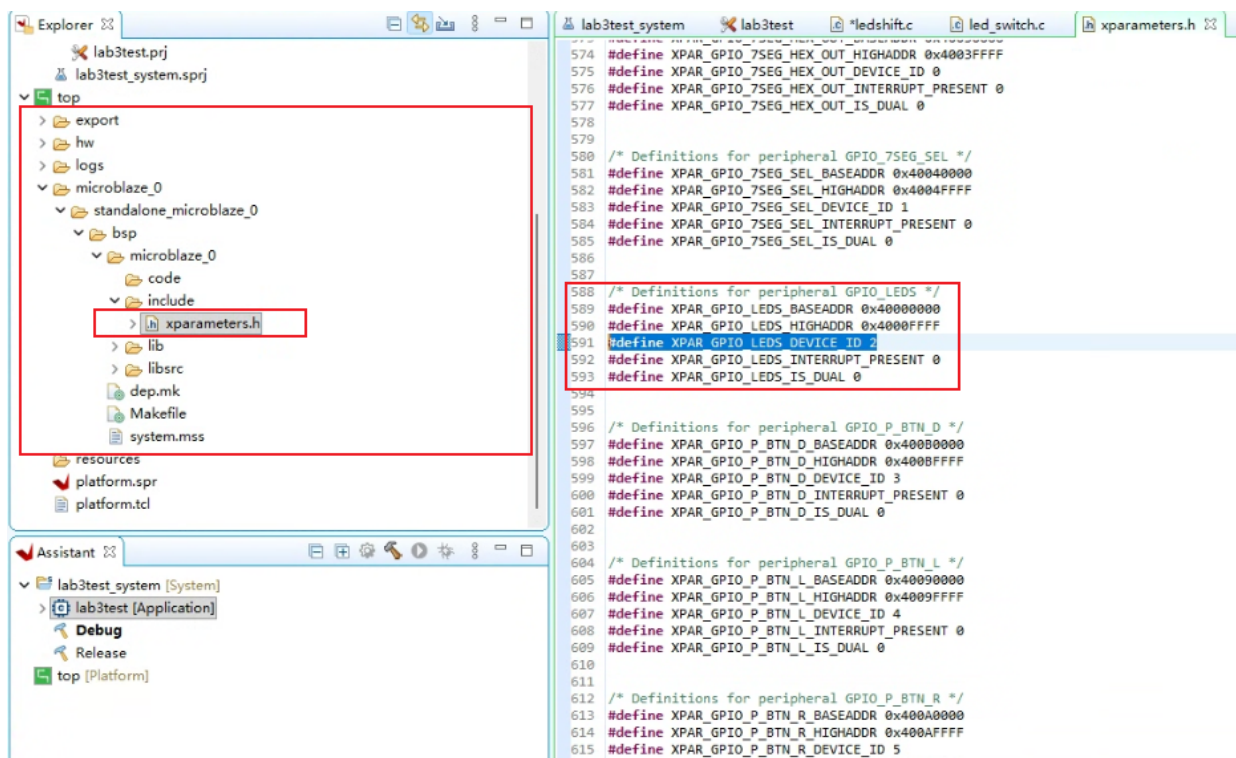

Figure 7.
- Confirm XPAR\_GPIO\_LEDS\_DEVICE\_ID device ID Number, As shown in Figure 7, the ID Number is 2 (**#define XPAR\_GPIO\_LEDS\_DEVICE\_ID 2**).